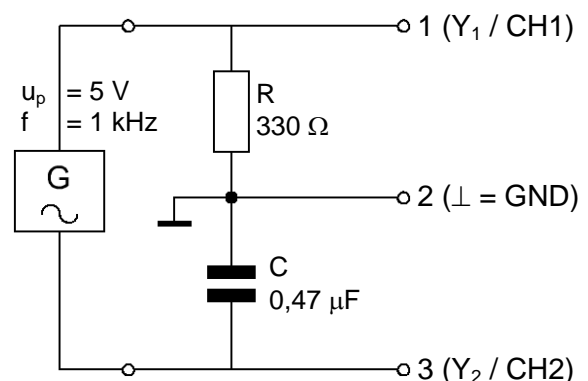

Fig. 13.4.3.3: Exercise circuit for measuring the capacitive reactance,  $Q_C$
- Connect the 2-channel oscilloscope as shown in Fig. 13.4.3.3.